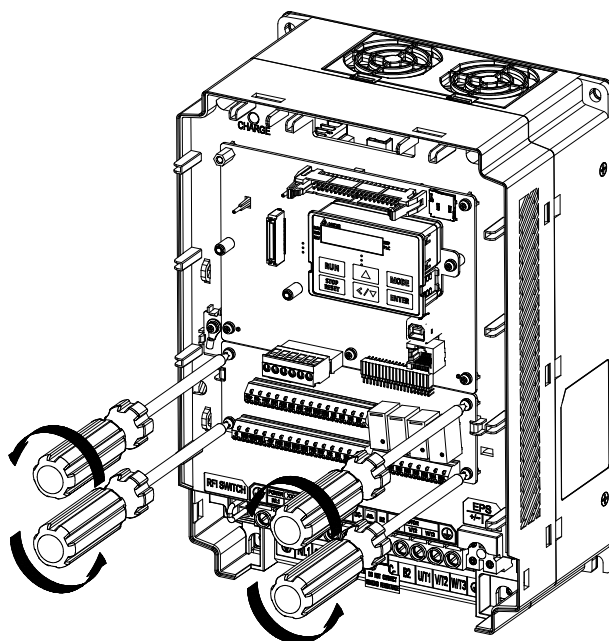

Figure 4-21
1. Loosen the four screws surrounding the I/O board using screwdriver, as Figure 4-21 shows.